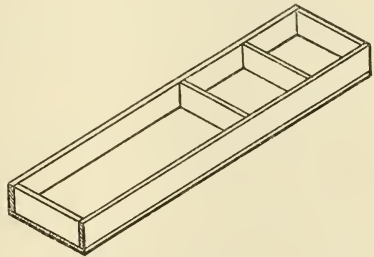

FIG. 127.—TRAY OF TOOL CHEST.
10. **Making trays.** — The two trays are for the purpose of holding the smaller tools, such as bits, files, scrapers, and screwdrivers. They are partitioned off as shown in Fig. 127. The top tray should be 2' 4½" long and 8" wide, and 3" deep (outside measurements), and made of soft wood ½" thick. The lower tray should be 1" shorter and the same width and depth. Nail on the sides to the ends and the partitions, then nail on the bottom.